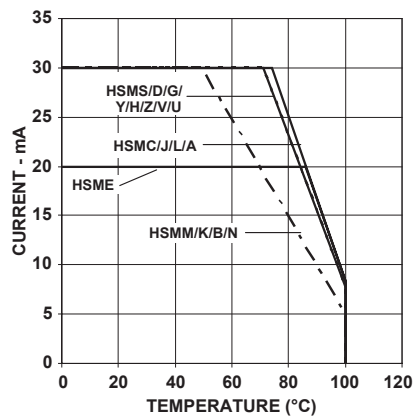

Figure 4. Maximum forward current vs. ambient temperature. Derated based on $T_{jMAX} = 110^{\circ}C$, $R\theta_{JA} = 500^{\circ}C/W$.
1. Derate linearly as shown in Figure 4.